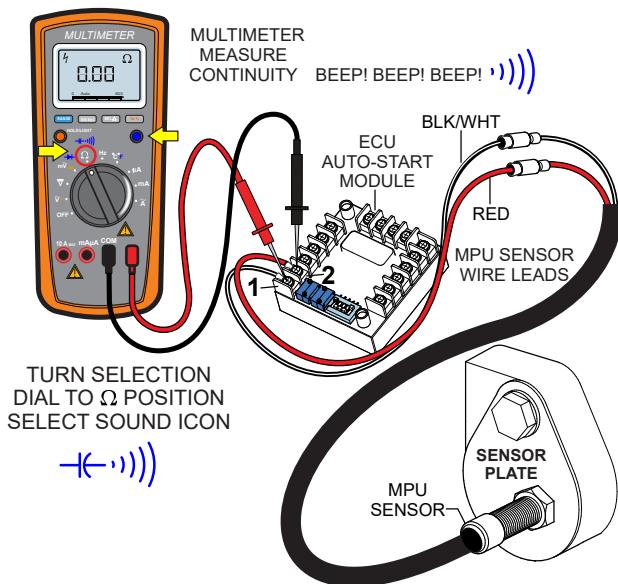

Figure 74. MPU Continuity Test
1. Place the multimeter test leads across pins 1 and 2 on the ECU **auto-start module** as shown in Figure 74.
2. Set the multimeter selection dial to the **sound** position and verify that there is continuity (**beep!**) between the pin 1 (**BLACK/WHITE**) and pin 2 (**RED**) wire leads on the ECU **auto-start module** as referenced in Figure 74.